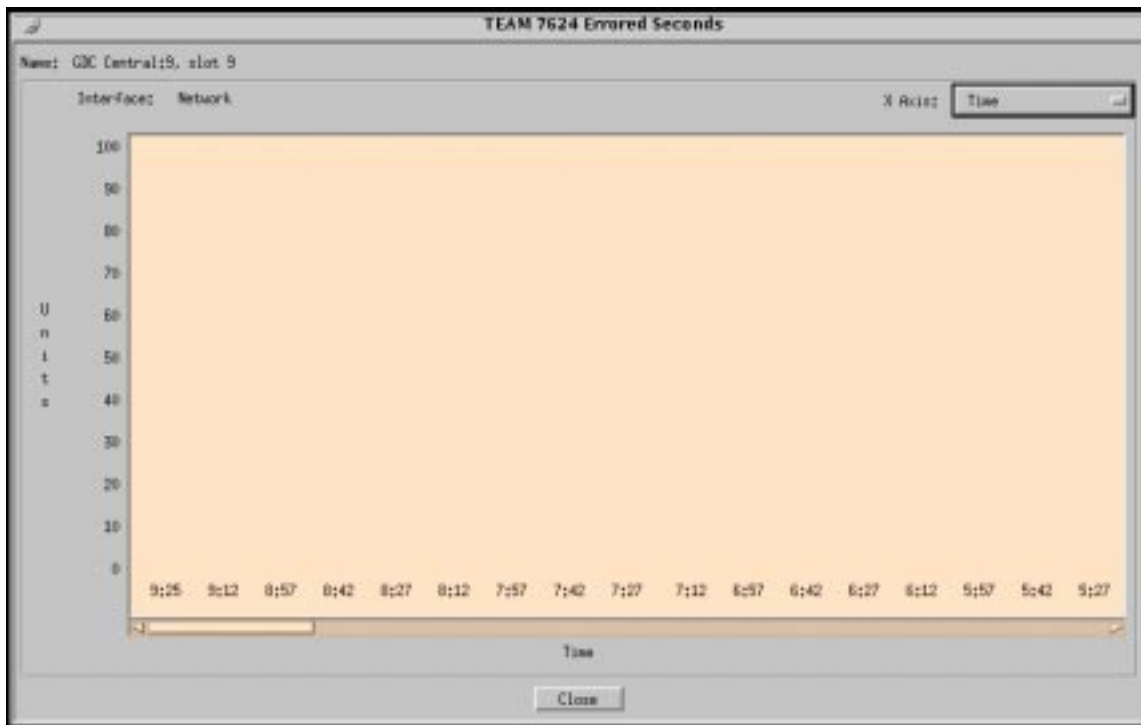
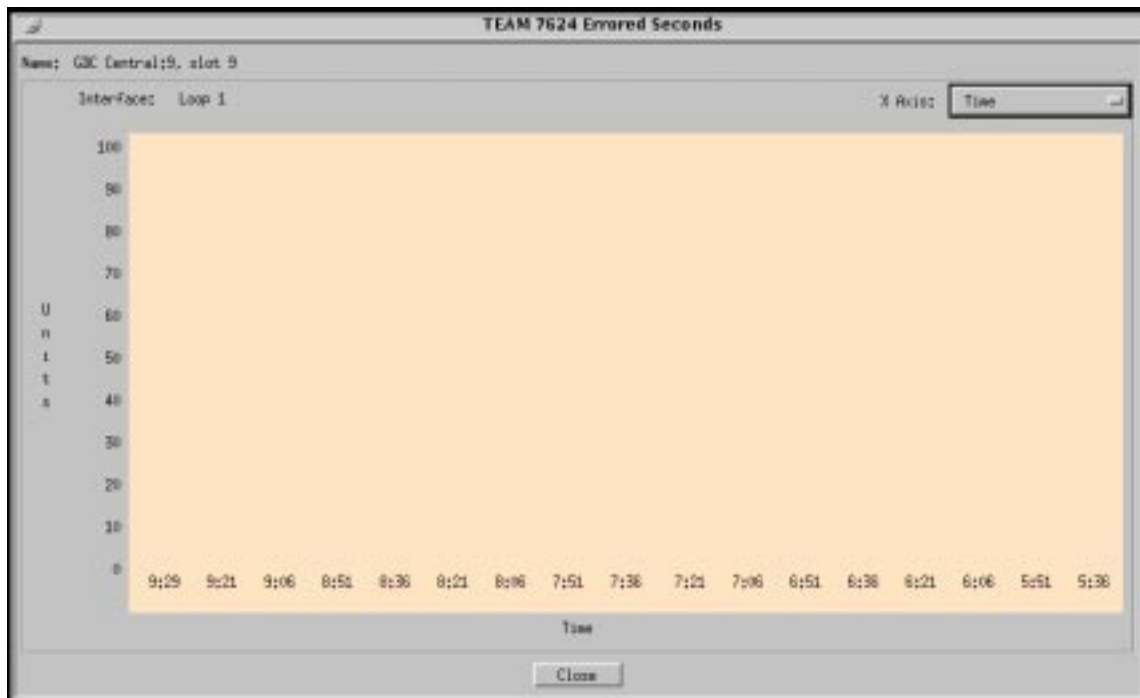

Figure 2-11 Errored Seconds (ES) Window for Network
Figure 2-12 Errored Seconds (ES) Window for Loops
An errored second (ES) is defined as a second with at least one CRC error event. Figure 2-11 shows the errored seconds (ES) screen for network and Figure 2-12 shows the errored seconds (ES) screen for the loops. Differences between the two are only the screen title text and interface read-only text. The figures are the basic screens for all individual statistical error categories like UAS, SES, and so forth. Like all other graphs, the Y-Axis scale dynamically changes, depending on the maximum value of a certain interval. The X-Axis option button on the upper right hand corner allows the user to view the X-Axis as a time scale or interval scale, or both.
The example in Figure 2-12, in this case for Loop 7, shows that 9:29 is an incomplete time period, that is, seven minutes short of fifteen minutes. The vertical axis of the bar graph displays error seconds for a particular 15-minute time period. By accessing the Time button (upper right-hand corner), you have a choice of time intervals for the X-axis. The unit lets you view four hours of error reports, while non-applicable intervals are not displayed.